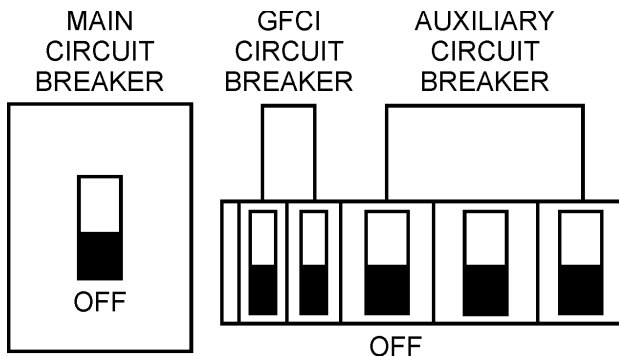

Figure 43. Main, Aux. and GFCI Circuit Breakers (OFF)
1. Place both the **MAIN, GFCI and LOAD** circuit breakers as shown in Figure 43 to the **OFF** position.
3. Place the **MAIN, GFCI and LOAD** circuit breakers as shown in Figure 43 to the **OFF** position.